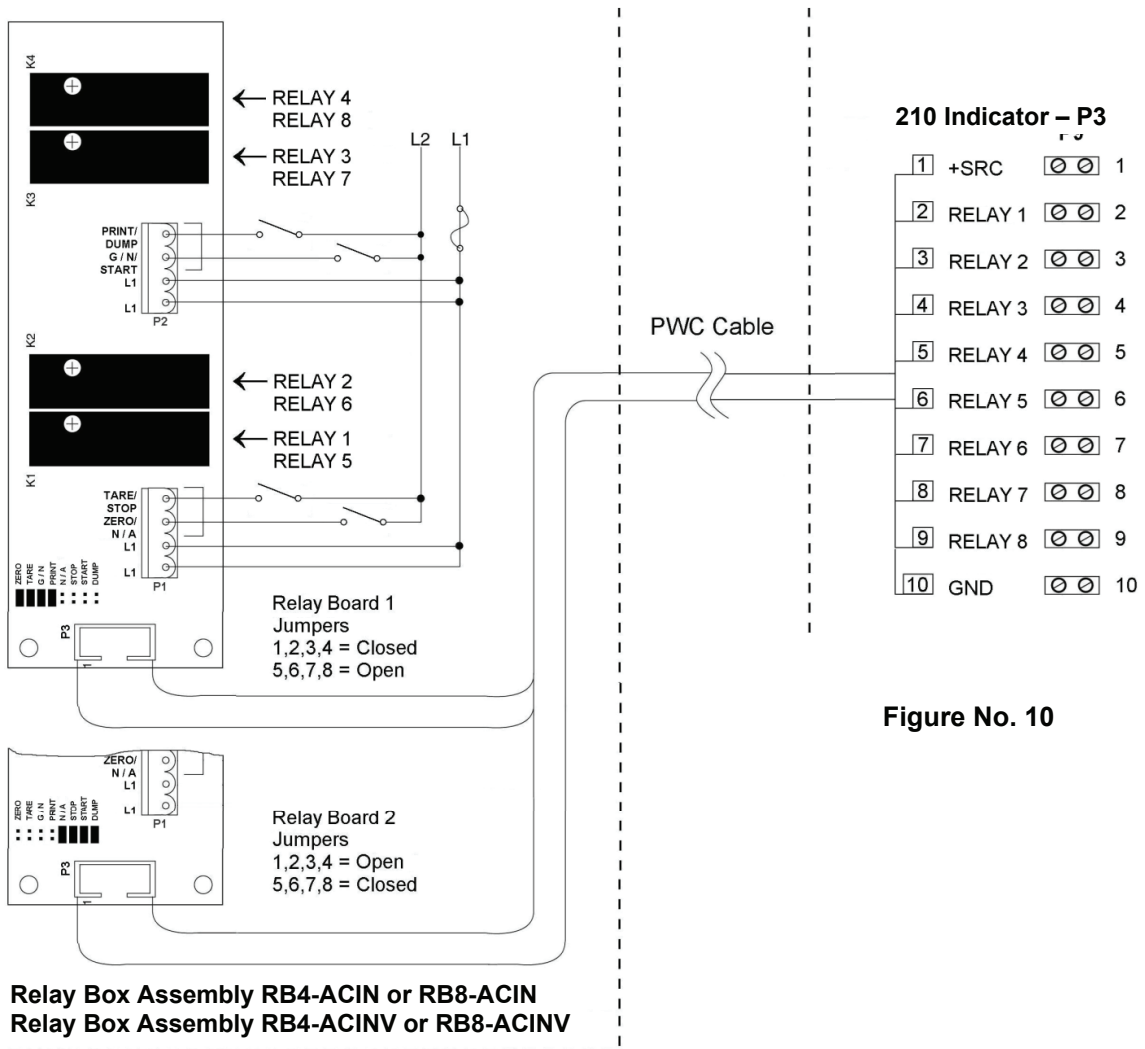
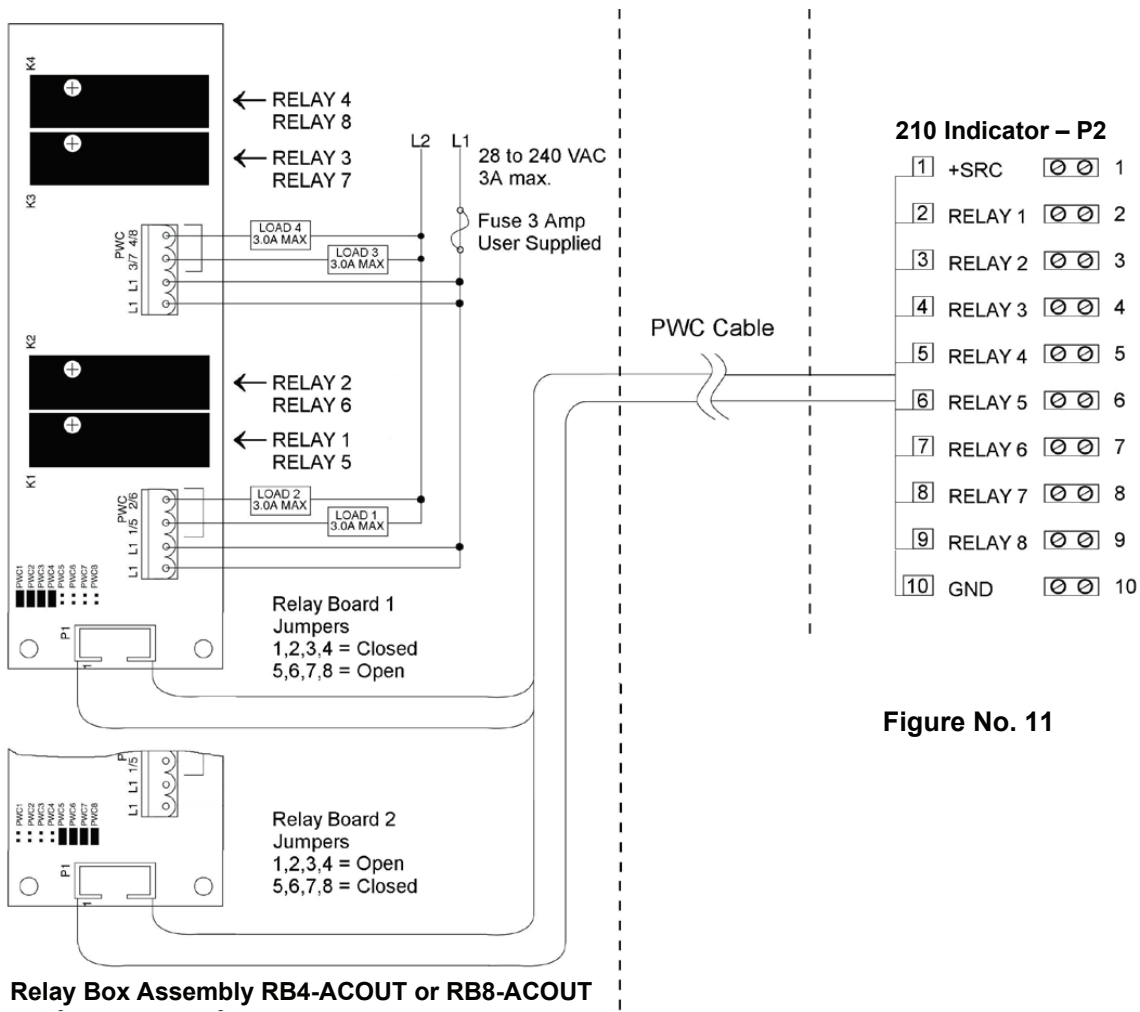
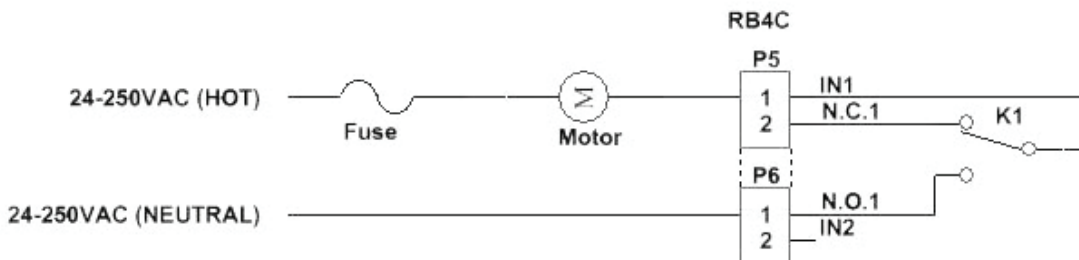
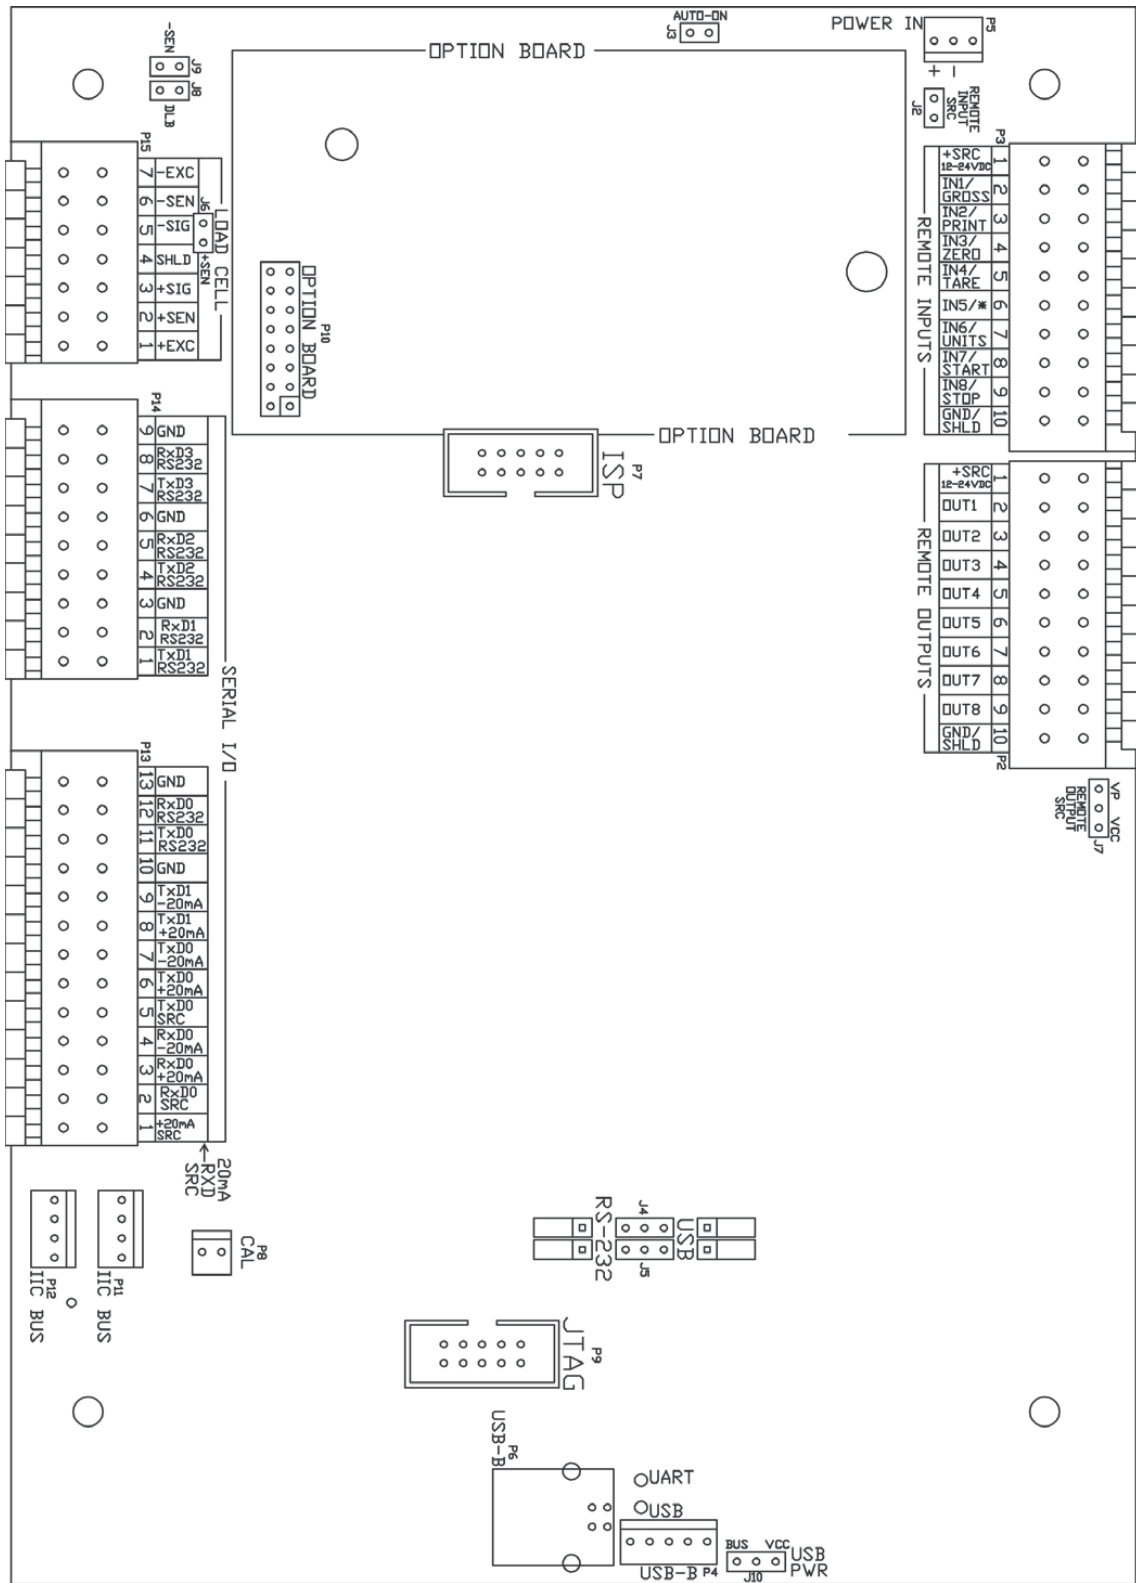

Figure No. 10
Figure No. 11
Figure No. 13
Figure No. 15
7. Plug the USB cable connector onto the USB-B, P4 header, referring to Figure No. 15 for the location of P4. Tighten the gland cable nut on the USB cable.
4. Plug the USB cable into the USB-B connector P6. See Figure No. 15 for the location of P6.
Refer to Figure No. 10 for the AC Input Relay board, Figure No. 11 for the AC Output Relay board, Figure No. 13 for the RB4C Relay board, and Figure No. 15 for the Main PCB.
Included with the I/O are 4 programmable inputs that may be used to remotely (up to 100 feet) initiate various functions within the indicator. These inputs are accessed via a terminal block (P3) on the back of the PC board (see Figure No. 15). The 8 inputs are defined as follows:
The AC Input Relay Board(s) are mounted in an external junction box for use with the 210 Indicator. The RB4-ACIN (115 VAC) or RB4-ACINV (230 VAC) contains one board and supports 4 inputs (jumper selectable). The RB8-ACIN (115 VAC) or RB8-ACINV (230 VAC) contains two boards and supports eight inputs that are jumper selectable. The relay board used in the 115 VAC versions is Cardinal p/n 8200-C324-0A. The 230 VAC version uses relay board Cardinal p/n 8200-C324-1A. Connect the devices as shown in Figure No. 10.
The Remote Output SRC jumper J7, when connected, allows the 210 indicator to supply (source) VP (15VDC) or VCC (5vdc) to a solid-state relay or other loads of 200 ohms or greater. The positive connection from the relays must be connected to the PWC connector pins and the negative wire from the relays to the GND pin. See Figure No. 15 for the jumper and REMOTE OUTPUTS connector location.
6. Connect each of the wires to the REMOTE OUTPUTS terminal block (P10) referring to Figure No. 15 for terminal block locations.
The AC Output Relay Boards are mounted in an external junction box for use with the 210 Indicator and can be purchased from Cardinal. The RB4-ACOUT contains one board and supports four outputs (jumper selectable). The RB8-ACOUT contains two boards and supports eight outputs. The relay board used in both is (Cardinal p/n 8539-C062-0A). Connect the devices to be controlled as shown in Figure No. 11.